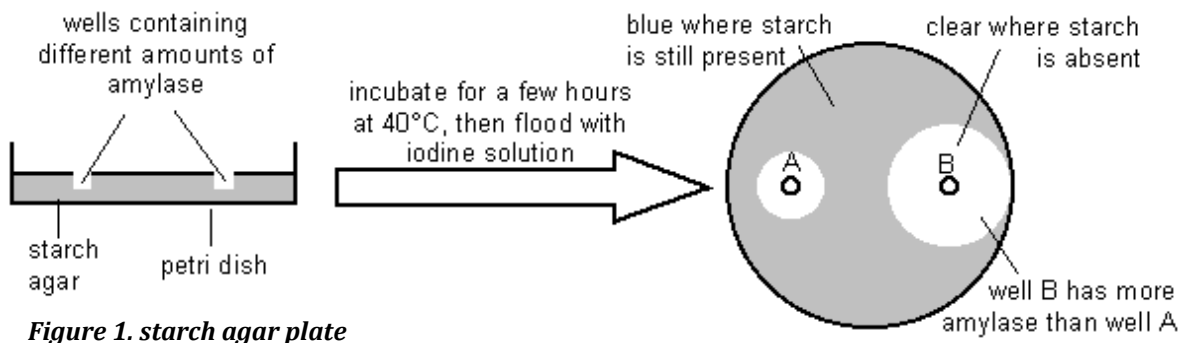

Figure 1. starch agar plate
- 4) Explain what the Figure 1. Diagram (starch agar plate) is illustrating.